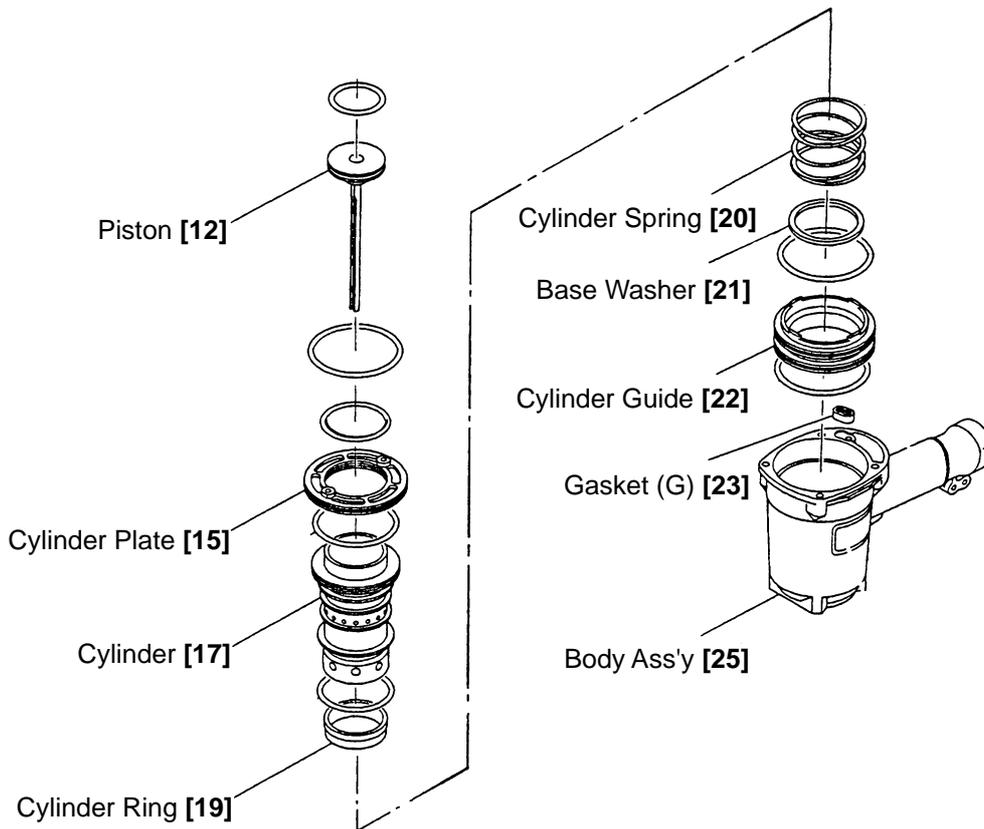

Fig. 10
- Gripping these two bolts, simultaneously turn and pull upward to remove the Cylinder Plate [15]. When this has been accomplished, the Cylinder [17] and other parts which make up the output section can be removed, as illustrated in Fig. 10.